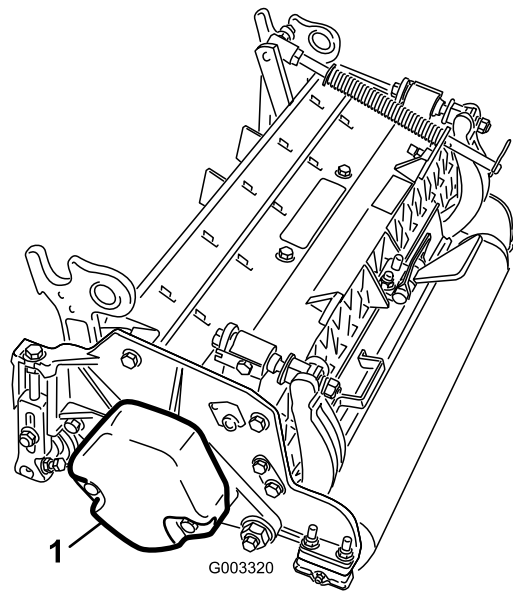

Figure 3
4. Make sure that the counter weight (Figure 3) is installed to the proper end of the cutting unit as described in the cutting unit *Operator's Manual*.